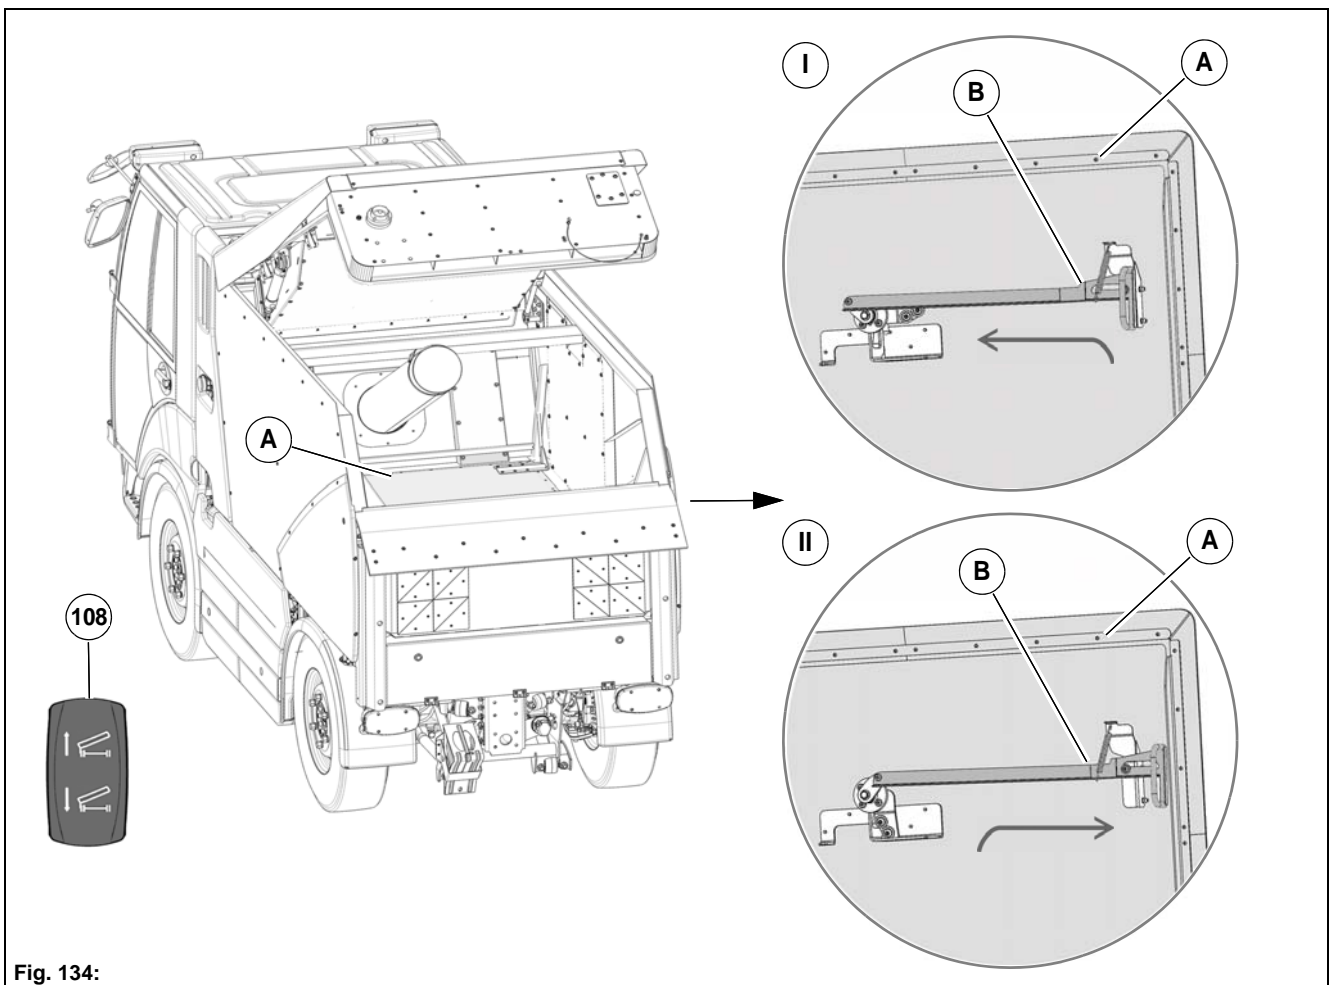

Fig. 134:
2. Unlock the sump valve **Fig. 134-A** with the lock **Fig. 134-B**. Press the lever forwards and inwards, see position **Fig. 134-I**.
5. Lower the dirt hopper and lock the sump valve again. Pull the lever forwards and outwards, see position **Fig. 134-II**.